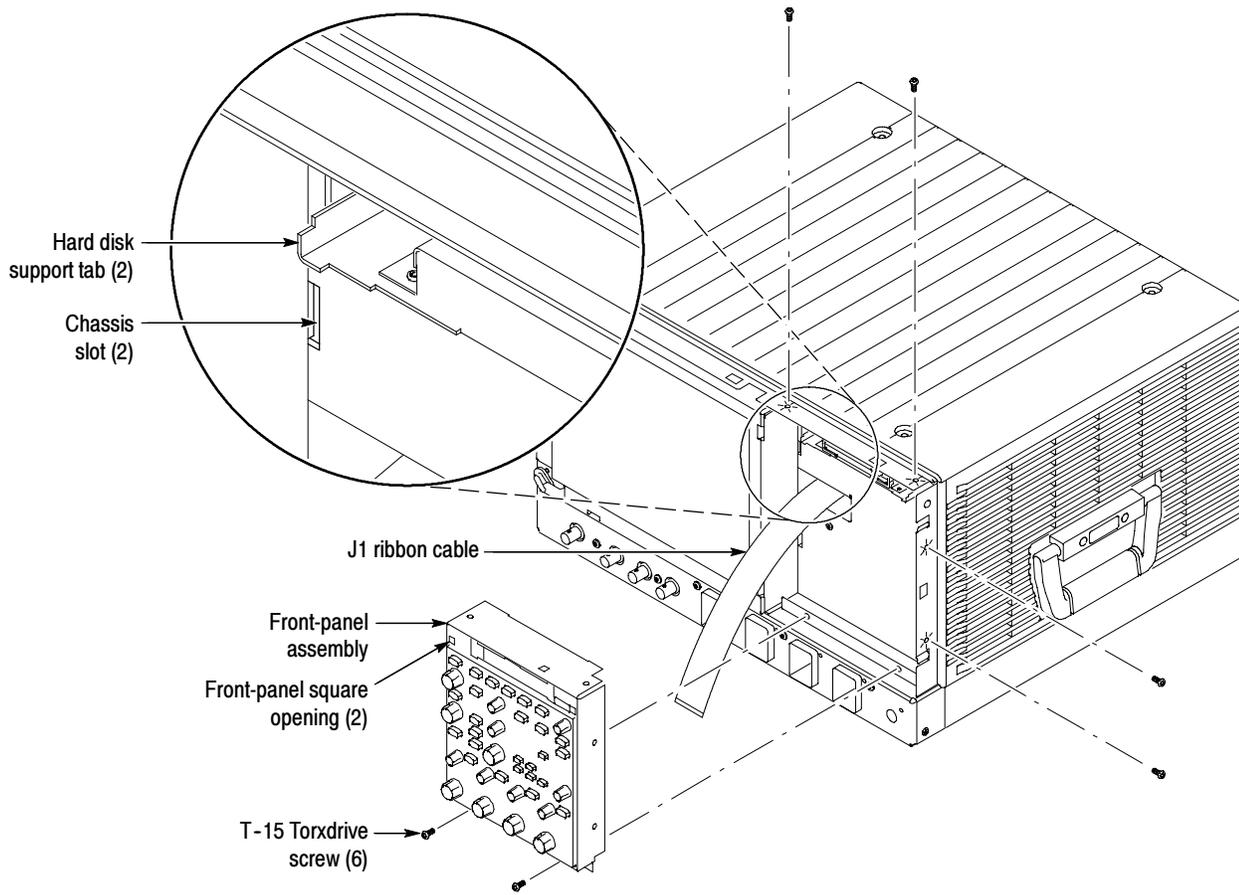

Figure 2-6: Front-panel assembly removal
1. *Locate module to be removed:* Locate the Front-Panel assembly in Figure 2-6 on page 2-10. Additional modules to be Removed:
2. *Remove the Front-Panel assembly:* See Figure 2-6 on page 2-10.